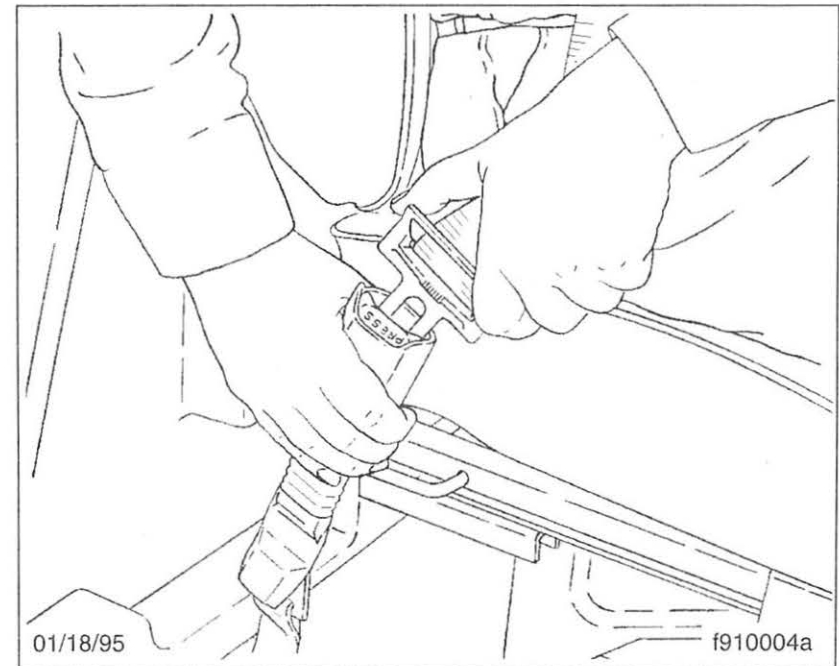

Fig. 5.6, Fastening the Three-Point Belt
2. Fasten the three-point seat belt by pushing the link into the buckle until it latches (**Fig. 5.6**). Give the belt a tug at the buckle. If the buckle unlatches,